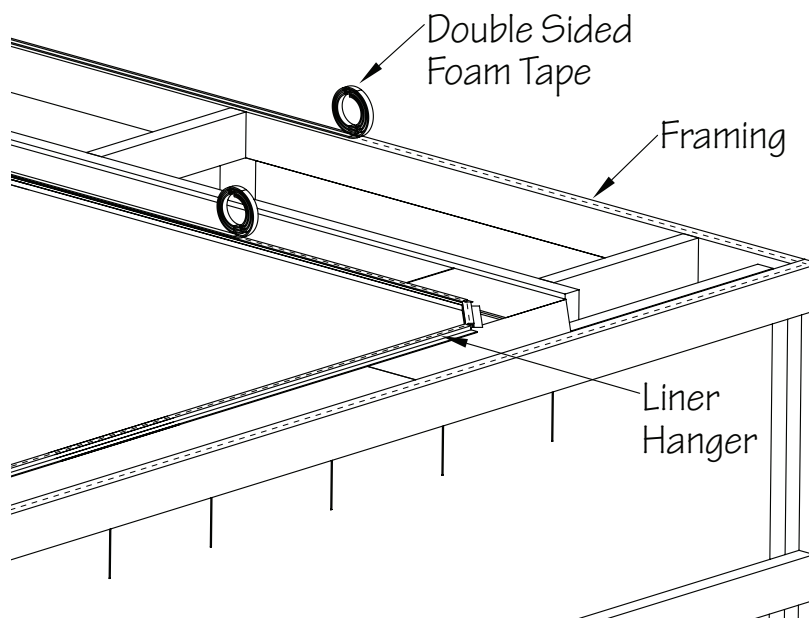

Fig. 3
1. Adhere the Double Sided Foam Tape to the Liner Hanger around the perimeter of the pool. In addition, adhere the tape to any wood framing around the perimeter of the top flange. **Do not remove the protective film from the tape at this time** (Fig. 3).